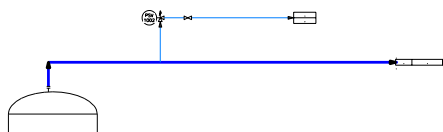

Figure 2-79 Location of utility connector and off page connector
4. Choose the **Utility Connector** tool from the **Off Page Connectors and Tie-In Symbol** area of the **Non-engineering** tab of the **TOOL PALETTES - P&ID PIP** and place at the locations, shown in Figures 2-79 and 2-80.